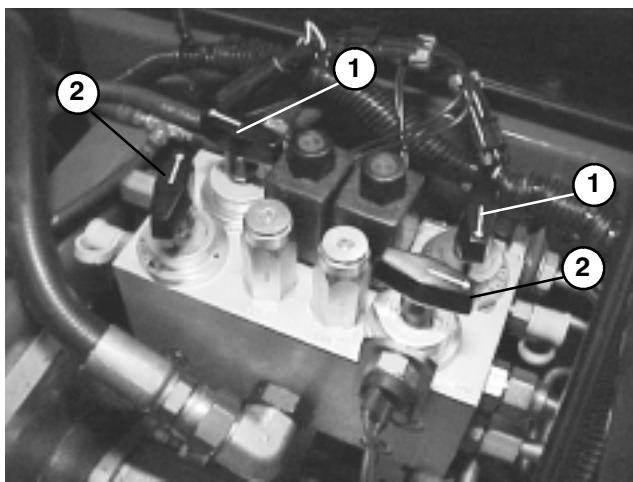

Figure 29
SETTING REEL SPEED (Fig. 29)
4. To set reel speed, rotate knobs (Fig. 29) until indicator arrows are in line with the number designating desired setting.